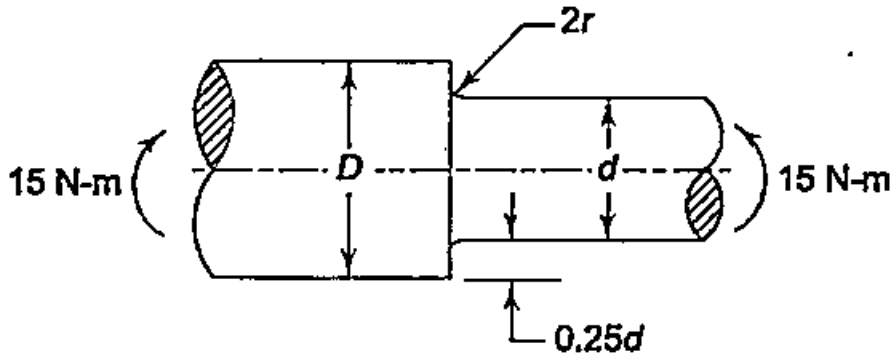

Fig:3
- (b) A round shaft made of a brittle material and subjected to a bending moment of 15 N-m is shown in Fig.3. The stress concentration factor at the fillet is 1.5 and the ultimate tensile strength of the shaft material is 200 N/mm^2 . Determine the diameter d , the magnitude of stress at the fillet and the factor of safety.